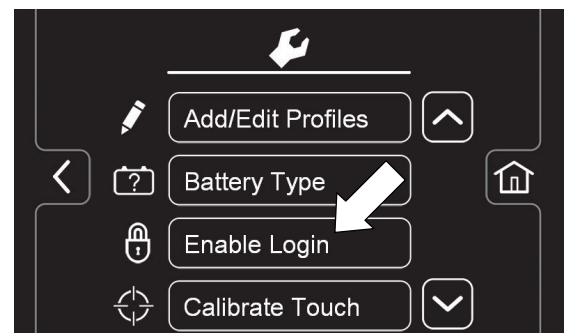

FIG. 147
8. To enable the login number at start up, press the “Enable Login” button (Figure 147). This button will change from “Enable Login” to “Disable Login”. This will allow you to disable a required login number at start up as described in step 13.